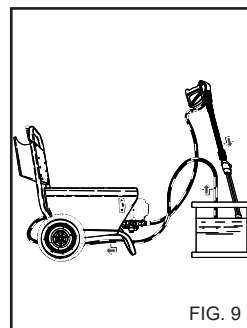

FIG. 9
- 1) After using with detergent, flush out the intake circuit; place the detergent suction hose (fig. 9) in a tank of clean water and let the pump run for 1 minute with the dosing tap turned fully on and the lance in detergent delivery condition.